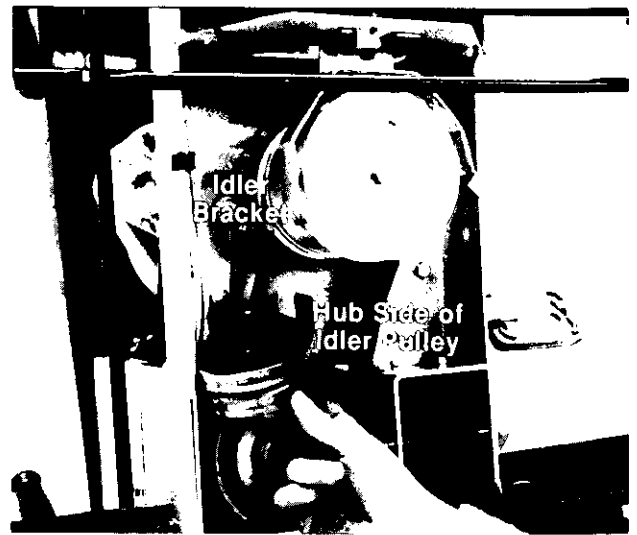

FIGURE 32.
7. Upon reassembly of idler pulley, be certain hub side of idler goes against the idler bracket. See figure 32.